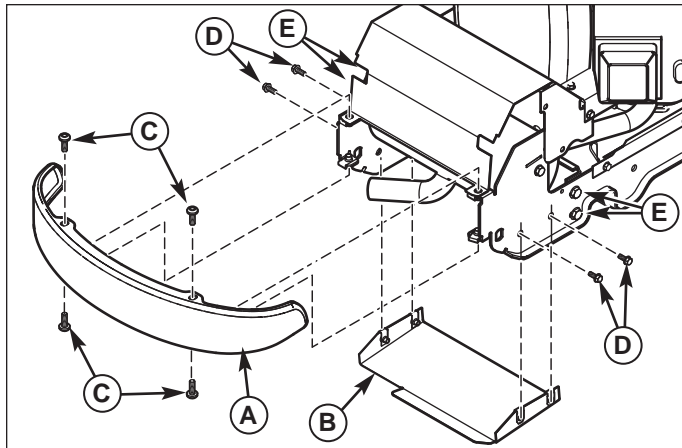

Figure 3 Bumper and Heat Shield Removal
- Remove front bumper (A, Figure 3) by removing the four 5/16-18 Torx screws (C). Save all parts for reassembly.
- Remove muffler lower heat shield (B, Figure 3) by removing the four 1/4-20 whiz lock screws (D). Save all parts for reassembly.